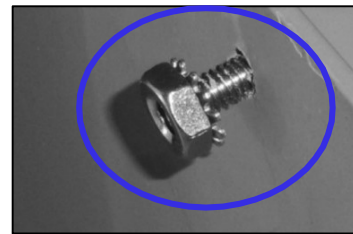

Figure 30: 1/2 inch screw inserted in the top hole of the mounting plate
- Source locally one (1) #8-32 x 1/2 inch screw, two (2) each #8-32 x 3/4 inch screws, and three (3) #8-32 Kep® nuts (or equivalent).
- Insert 1/2-inch screw into the top hole in the mounting plate, and thread one of the nuts loosely on the end as shown in Figure 30.